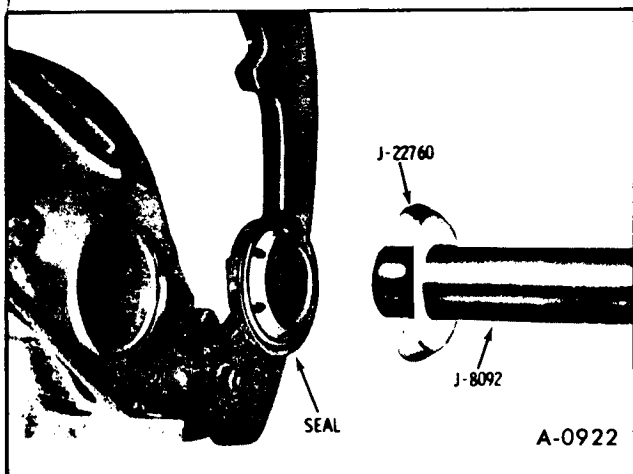

Figure 10—Installing R.H. Output Shaft Seal
4. If output shaft seal was removed, new seal can be installed as shown in Figure 10.